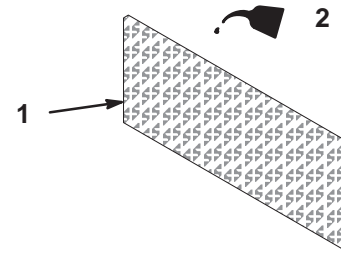

Figure 22
3. Put one or two ounces of oil on the element (Fig. 22). Squeeze the element to distribute the oil.